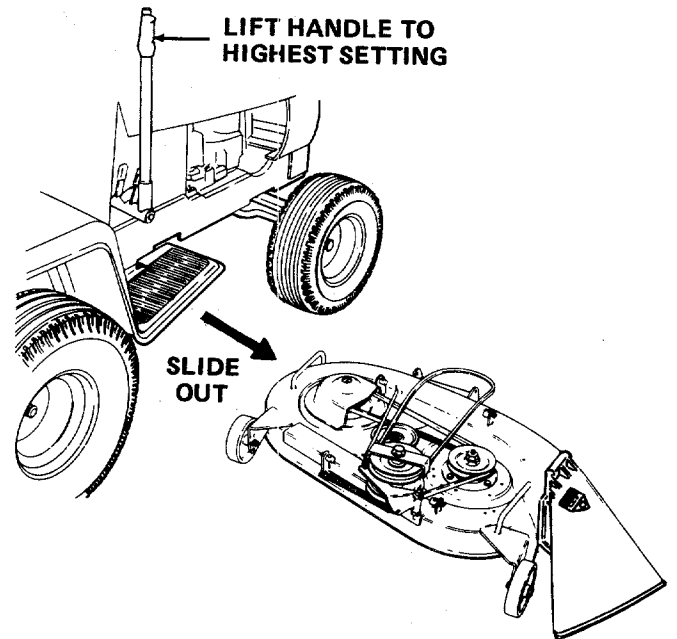

Figure 44
8. Raise the lift handle to the highest setting and slide the deck out from under the tractor. (Refer to Figure 44.)